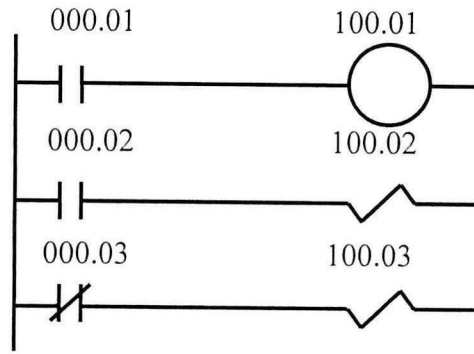

Figure Q4 (b)
- (b) Categorize the correct input and output addresses by filling in the blanks provided below. Refer to **Figure Q4(b)** and **Table Q4(b)**.
- (i) Categorize any energized output in the ladder diagram of FigureQ4(a).